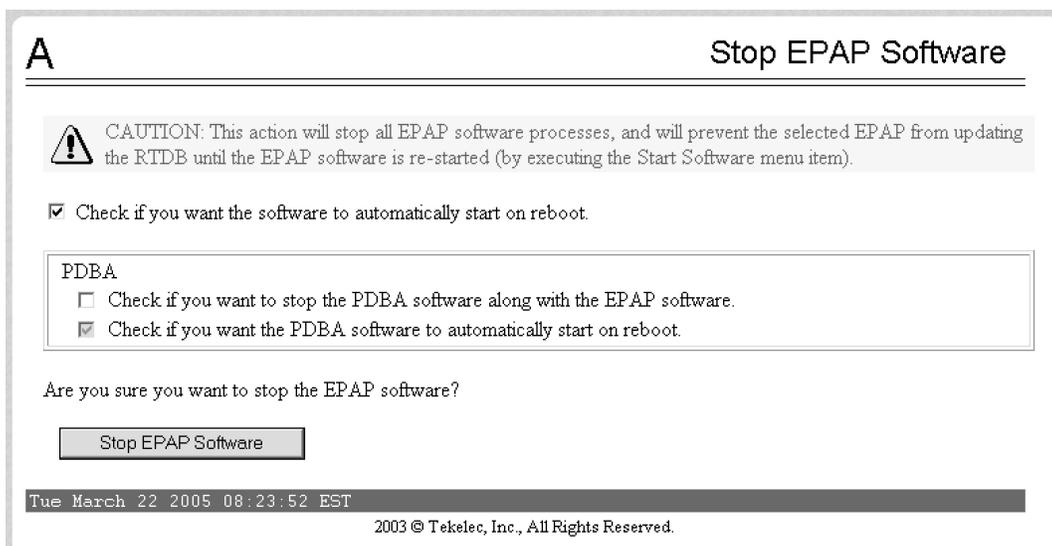

Figure 24: Stop EPAP Software
4. Select **Process Control>Stop Software** to ensure that no other updates are occurring. The screen in Figure 24: Stop EPAP Software displays: